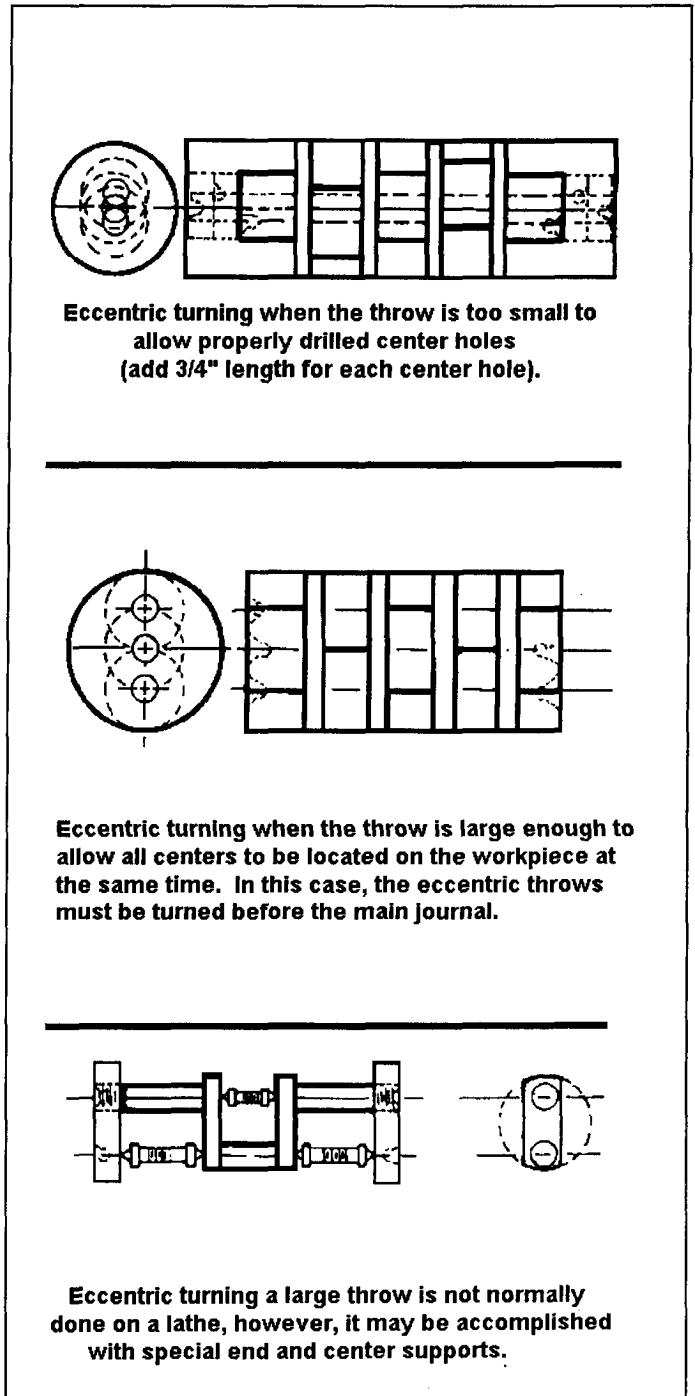

Figure 7-102. Eccentric turning.
- First determine the stock required by adding the throws plus 1/8 inch for machining (Figure 7-102).
the stock $\frac{3}{4}$ inch oversized and just face both ends to clean up the saw cuts. Lay out and center-drill the normal center axis and turn down those diameters on the center axis with the work mounted between centers. Remove the work and remount into a chuck. Face both ends to the required length and center-drill the offset centers. Remount the work between these centers and machine the eccentric diameters to size. For eccentric work that has a limited distance between each center, this method is safer than trying to use a very shallow center-drilled hole to hold the work between centers (Figure 7-102).
If the lathe is to be used to turn a crank with a great throw, or a throw that is greater than normally machined on a lathe (Figure 7-102), special throw plates must be fabricated to hold the ends of the work while turning. The special throw plates will be used as support blocks to enable the offset center holes to be machined into the throw plates and allow for eccentric turning. eccentric turning, it is not recommended for normal lathe operations. Special crankshaft turning and grinding equipment is available for this type of machining.